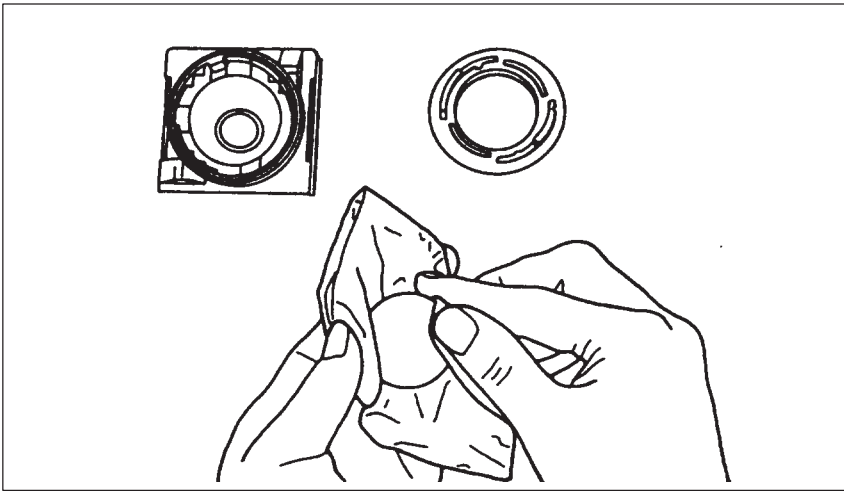

Figure 2-11 Cleaning the Trackball
4. Wash the trackball with tap water to which a mild cleansing agent has been added (Figure 2-11).